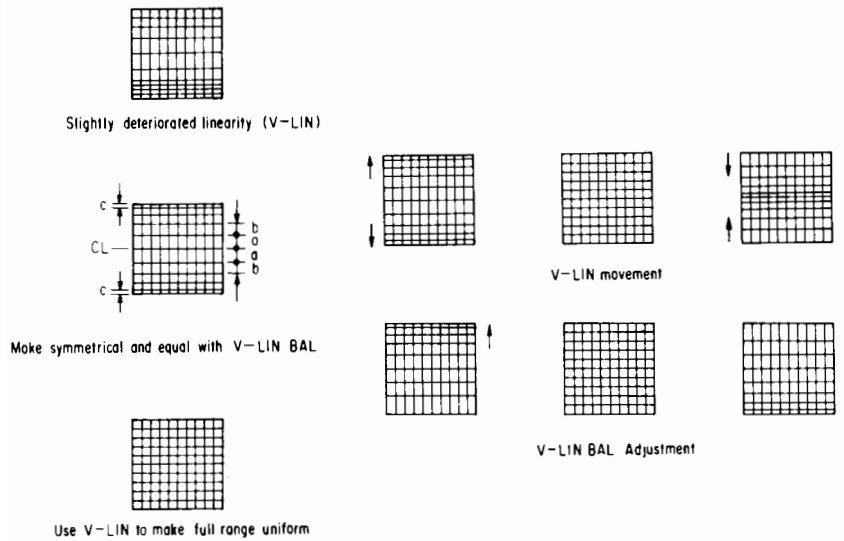

Figure 6-5. Vertical Balance and Linearity
8. Adjust RV-103 (V-LIN BAL) to equalize the height (vertical dimension) of the squares in the cross-hatch pattern in the upper and lower sections. See Figure 6-5.